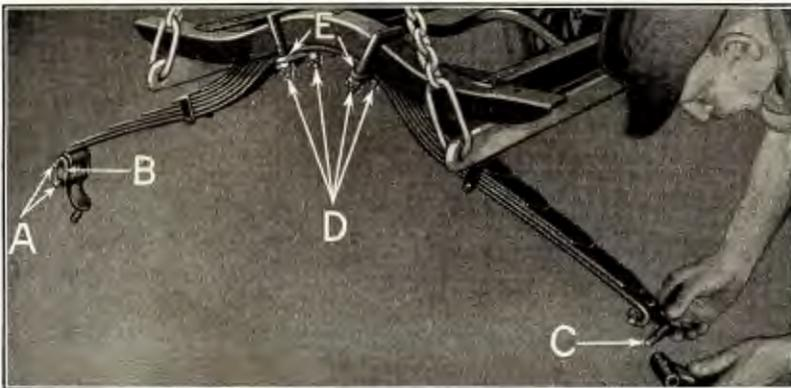

Fig. 56
- (a) Run off spring hanger nuts (See "A" Fig. 56) and withdraw hanger bars "B", perches and hangers can then be withdrawn as shown at "C".
- (a) Insert hangers through ends of spring and perches (See "C" Fig. 56).